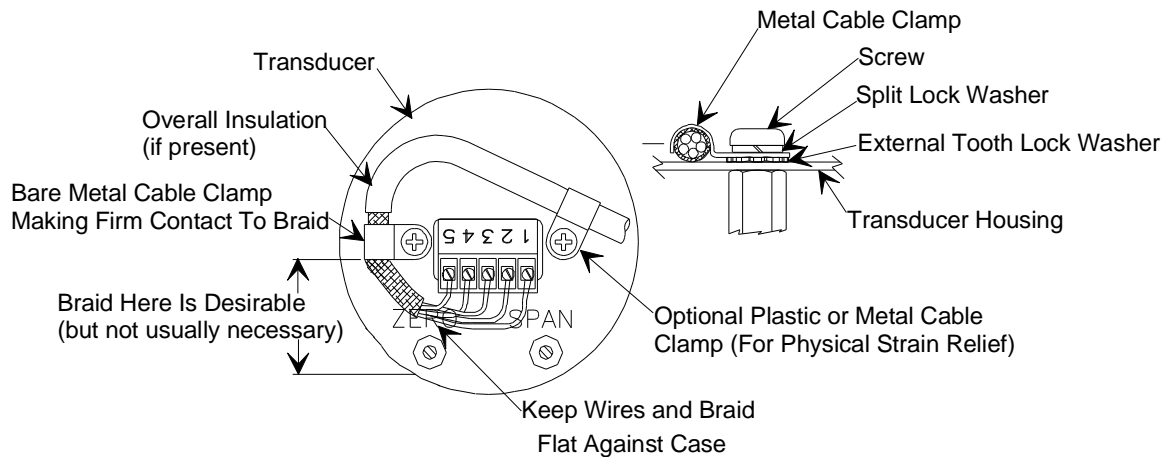
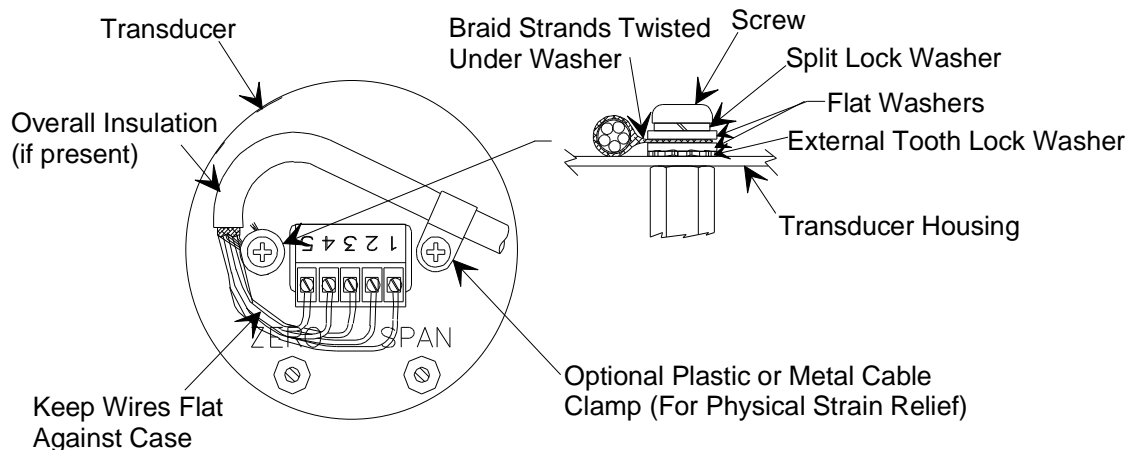

Figure 2: How To Connect the Cable to a Terminal Block (Example 1)
Figure 3: How To Connect the Cable to a Terminal Block (Example 2)
4. For shielded cables with flying leads at one or both ends; it is important at each such end, to ground the shield *before* the wires exit. Make this ground with absolute minimum length. Refer to Figures 2 and 3, page 40. (A ¼ inch piece of #22 wire may be undesirably long since it has approximately 5 nH of inductance, equivalent to 31 ohms at 1000 MHz). After picking up the braid's ground, keep wires and braid flat against the case. With very few exceptions, grounded metal covers are not required over terminal strips. If one is required, it will be stated in the Declaration of Conformity or in the instruction manual.
The cable to the terminal block connector must be firmly attached to the top of the transducer, in order to comply with CE Mark requirements. Figure 2 shows the preferred method to connect the cable; using a metal cable clamp to affix the cable to the transducer. Figure 3 shows an alternate method; wrapping the braided shield under the screw. Both examples show the cable securely clamped to the transducer.